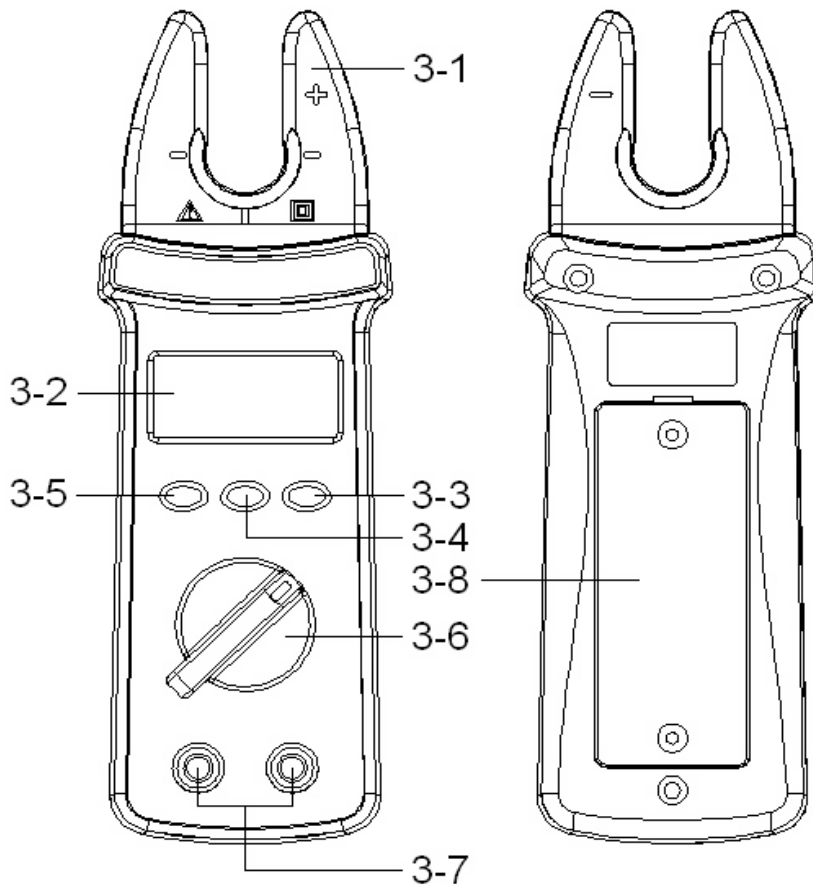

Fig. 1
- 3) If measure " DCV ", select the " Function rotary switch " (3-6, Fig. 1) to the " V \equiv " position
- 4) If measure " ACV ", select the " Function rotary switch " (3-6, Fig. 1) to the " V \sim " position, the display (3-2, Fig. 1) will show the " AC \sim " indicator.
- 3) Select the " Function rotary switch " (3-6, Fig. 1) to the " Ω \cdot || " position, the display (3-2, Fig. 1) will show the " Ω " indicator.
- 3) Select the " Function rotary switch " (3-6, Fig. 1) to the " Ω \cdot || " position.
- 4) When the resistance value is less than 3 ohm, the beeper sound will be generated, the display (3-2, Fig. 1) will show the " \cdot ||| " indicator.
- 1) Select the " Function rotary switch " (3-6, Fig. 1) to the " A \sim " position , the display (3-2, Fig. 1) will show the " AC \sim " indicator.
- 2) Put the electrical wire that intend to make the ACA measurement into the center of " Fork Jaw " (3-1, Fig. 1)
- 1) Select the " Function rotary switch " (3-6, Fig. 1) to the " A $\overline{=}$ " position.
- 2) Put the electrical wire that intend to make the DCA measurement into the center of : Fork Jaw " (3-1, Fig. 1)
- * Push the " DCA ZERO Button " (3-5, Fig. 1), display will change to zero value.
- 1) During the measurement, pushing the " DATA HOLD Button " (3-4, Fig. 1) once a while will freeze the measured value & the LCD will indicate " H " symbol.
- 1) Before the measurement, pushing the " PEAK HOLD Button " (3-3, Fig. 1), then LCD will indicate " PEAK " symbol.
- 3) Push the " PEAK HOLD Button " (3-3, Fig. 1) again to release the PEAK HOLD function.